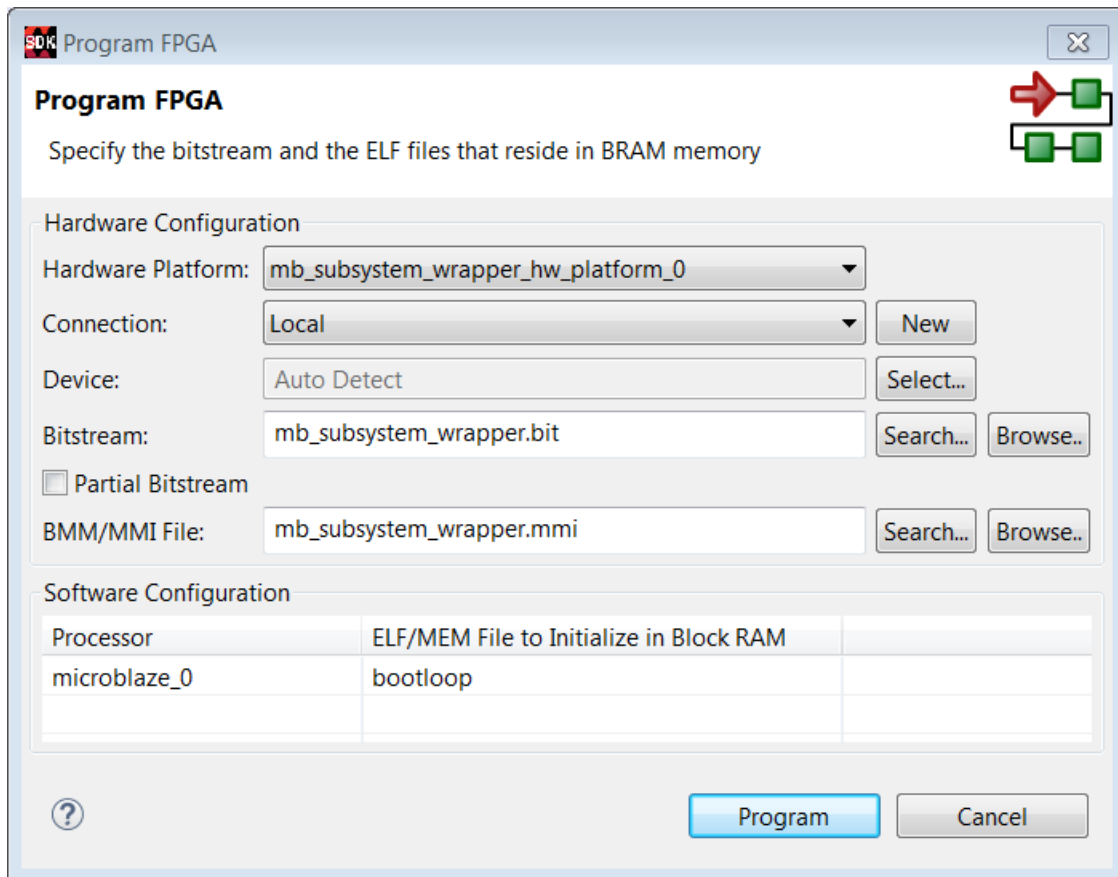

Figure 117: Program FPGA Dialog Box
2. In the Program FPGA dialog box, click **Program**, as shown in Figure 117.